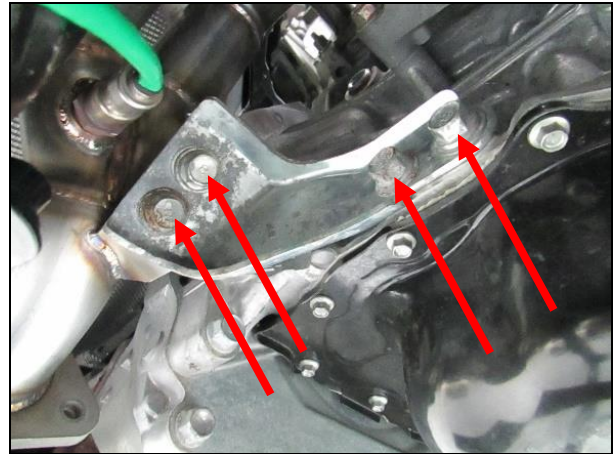

Figure 14
- Reinstall the OEM manifold bracket and tighten (x4) 14mm bolt heads (**Figure 14**).